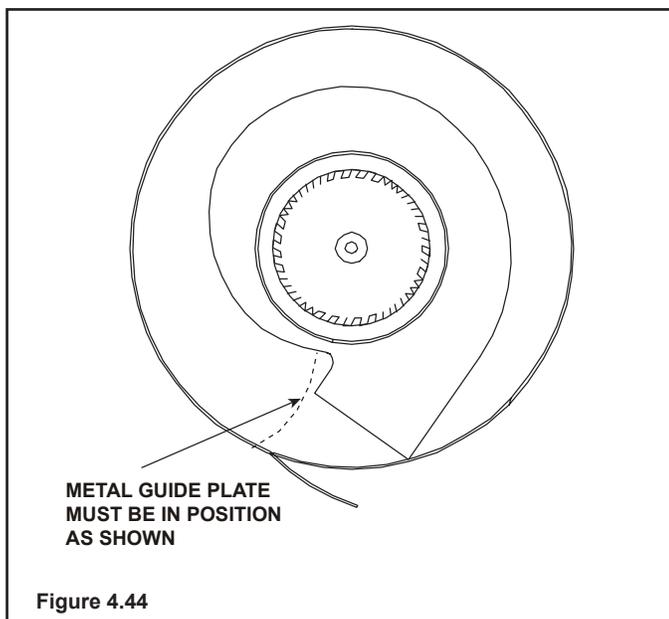

Figure 4.44
- G. Bend the metal guide plate at the exhaust port hole out and through the hole on the 10-1/2 in. diameter collar. See Figure 4.44.